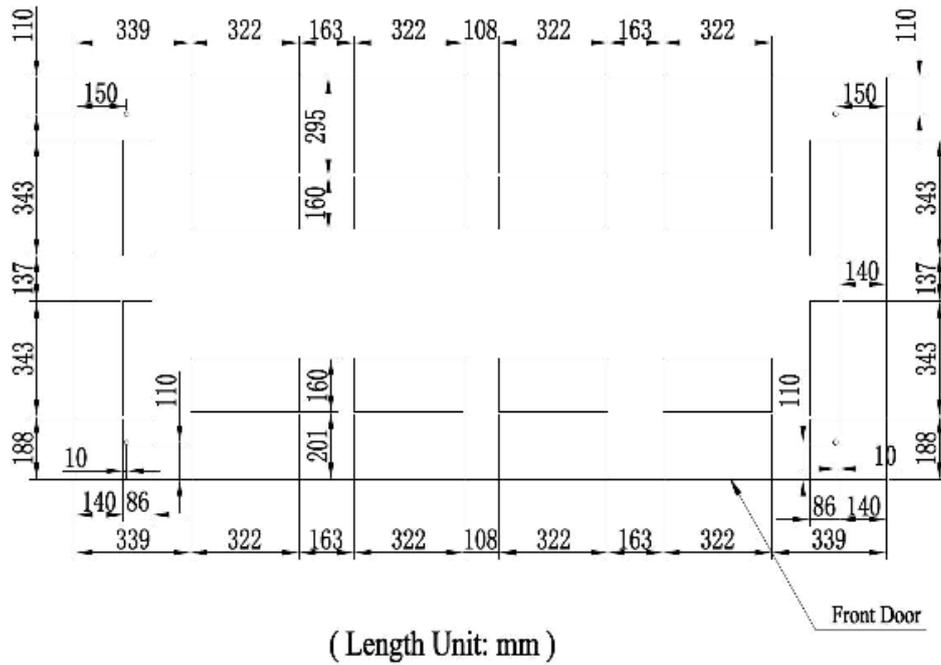

Figure 3.2.1-C Hole positions and dimensions of the Power Bank concrete foundation
- 4. The height of the foundation is recommended to be $200\text{mm} \pm 20\text{mm}$, and the vertical inclination of the installation should not exceed $\angle 5^\circ$. Refer to **Figure 3.2.1-D** for details;
- 5. Lay the power cables in advance. Multi-core cables should be stripped under the foundation. After stripping the AC power cables, the reserved length of the exposed foundation should not be less than 600mm. The reserved length of signal cables and auxiliary power cables should not be less than 1000mm. Refer to **Figure 3.2.1-D** for details;